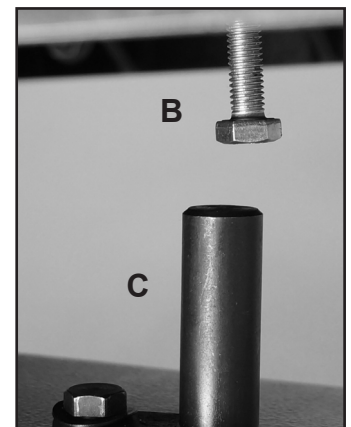

FIGURE 12
1. First loosen the bolt's Locking Nut (#7B) Fig. 12, A.
3. Adjust the bolt (Fig. 12, B), up or down, until it is in contact with the pivoting Table Angle Stop Block (#107A) Fig. 12, C. Retighten the locking nut making sure that the table angle setting is maintained.